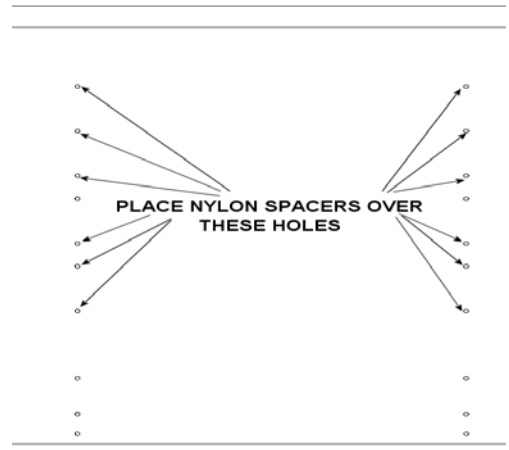

Figure 38. Spacer Location for Group 14
3. Place the Nylon spacers over the 12 mounting holes on your display (see Figure 38).